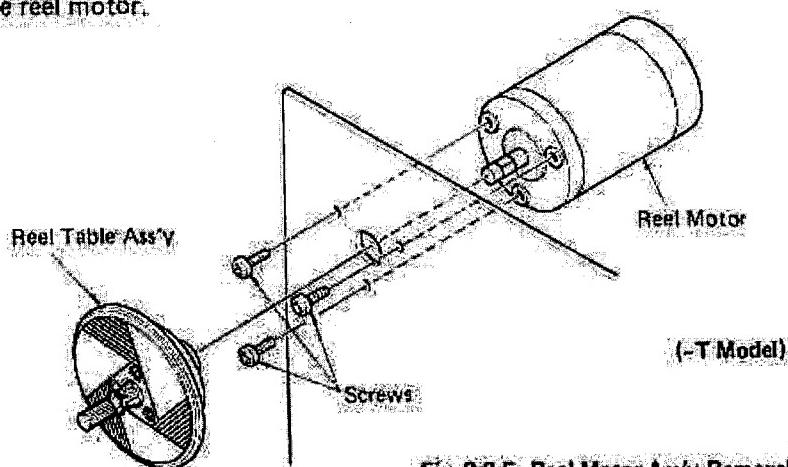

Fig. 9-3-5. Reel Motor Ass'y Removal
1. After removing the front panel as described in 9.3-1(C), remove the reel table assembly and as shown in Fig. 9-3-5, remove the three screws holding the reel motor.